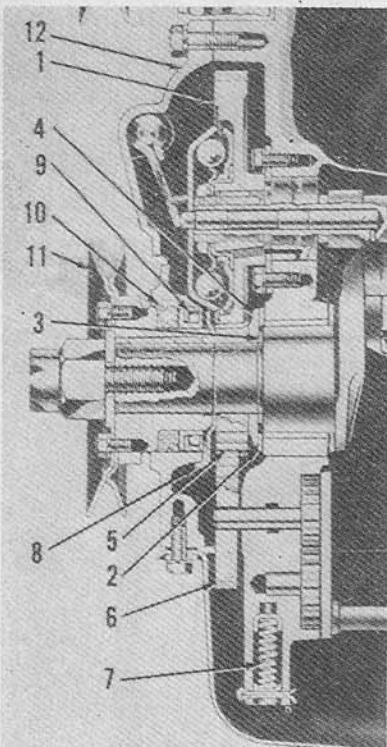

Fig. F10—Model TO30 engine crankshaft front oil seal and governor installation. Models TE20 and TO20 are similar. Shims (3) control crankshaft end play.
18. Although it is possible to renew the crankshaft oil seal felt (10—Fig. F10) and treated leather seal (9) without removing the timing gear cover, our suggestion is to remove the cover, which entails little additional work. To remove the timing gear cover, remove the hood, disconnect one drag link connection from steering gear arm and mating radius rod from one side of tractor. Disconnect upper and lower radiator hose connections. Support tractor under forward part of transmission. Remove bolts retaining front axle support to front of engine and swing axle and front end assembly away from engine. Remove fan blades, crankshaft starting jaw and crankshaft pulley (11). Remove the three forward oil pan retaining cap screws and loosen all other pan screws to permit removal of timing gear cover. Disconnect governor linkage and remove cap screws retaining timing gear cover to engine.
25B. Crankshaft end play is controlled by shims (3—Fig. F10 or F14) located at forward portion of number one journal and should be checked with all parts in place, including the crankjaw which should be tightened. Recommended end play is 0.003-0.007. Adjust end play when it exceeds 0.012. To make adjustment (remove shims to decrease end play) remove crankshaft gear.